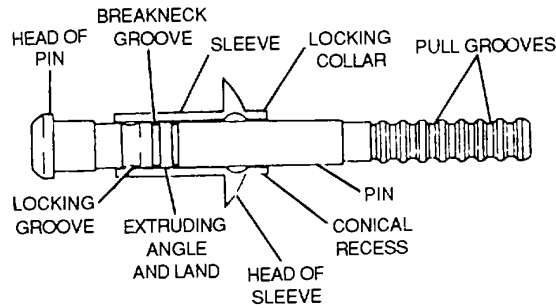

Figure 2-57. Huck Rivet
(3) **Huck rivets** Huck rivets consist of two parts a hollow sleeve made of 5056-H14 aluminum alloy having a universal or countersunk head with a conical recess and locking collar at the other end, and a pin made of 2024-T26 aluminum alloy which is pressed into the sleeve The pin is provided with an extruding angle and land to expand the sleeve for hole filling, a breakneck groove, and a head The pull grooves on the protruding end of the pin fit the jaws of the rivet tool. The rivet is shown in figure 2-57.